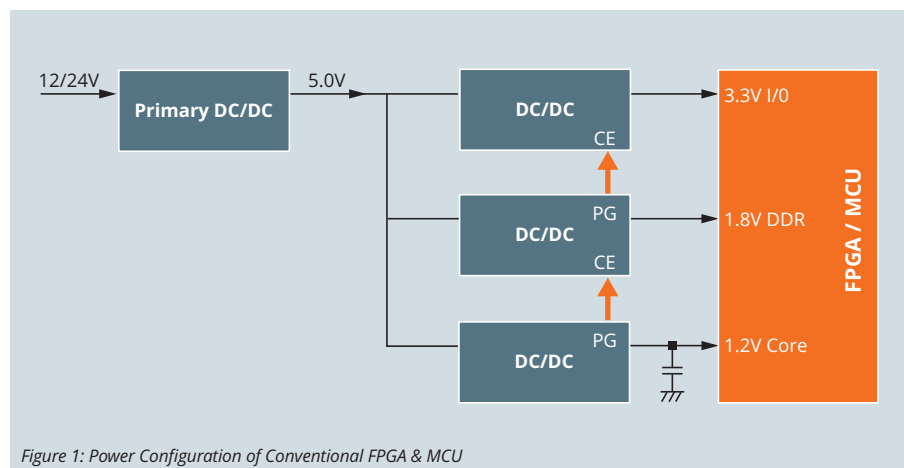

Figure 1: Power Configuration of Conventional FPGA & MCU
Core voltage is normally 1.2V or 1.0V. DDR memory needs typically 1.5V or 1.8V and I/Os need 2.8V or 3.3V (refer to Figure 1 below).
make the power on sequence and therefore it is quite common to have a Power Good (PG) output which is used to provide an Enable signal to next DC/DC in the sequence and so on (as shown in Figure 1).